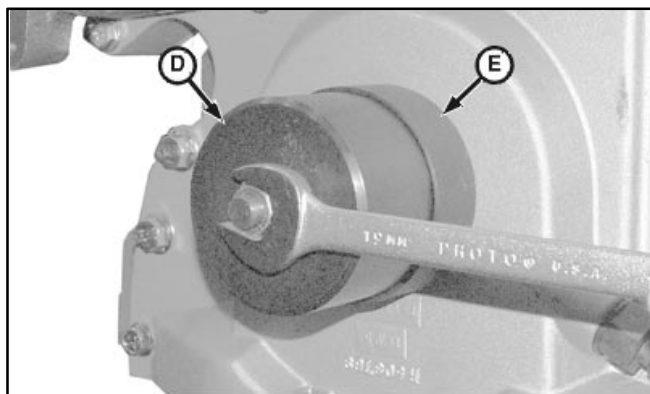

FIGURE 7-32. INSTALLING OIL SEAL
5. Place installer tool JDG954-1 (D) over the adapter. Place guide sleeve tool JDG954-6 (E) over the installer and seal. See Figure 7-32.